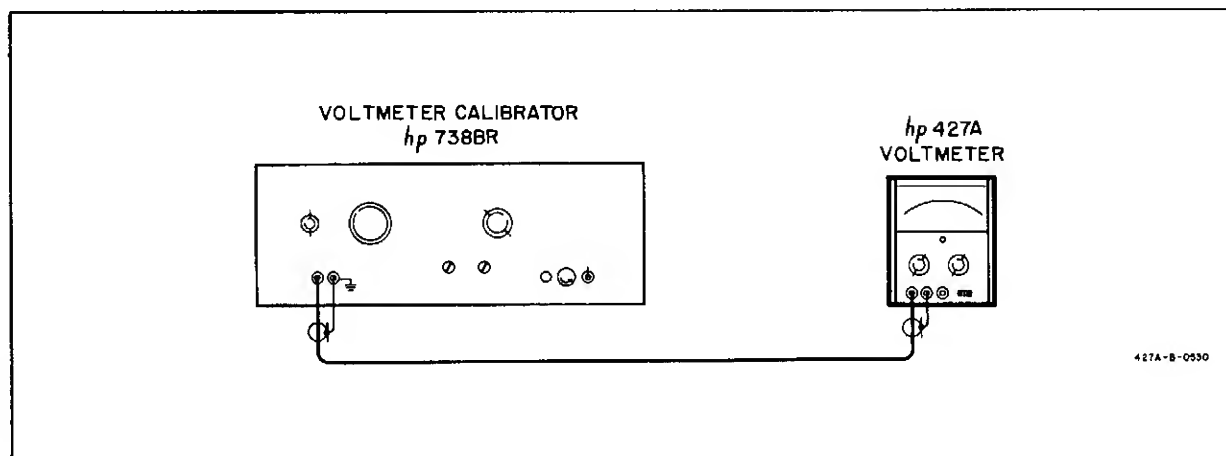

Figure 5-3. DC Accuracy and Linearity Check
5-17. The DC Accuracy Check requires a dc voltage standard that is accurate to within $\pm 0.2\%$ of its indicated output from 0.1 volt to 300 V. The -hp- Model 738BR Voltmeter Calibrator is accurate to within $\pm 0.1\%$ of the indicated output. Figure 5-3 shows the test setup for the DC Accuracy Check.
- c. Connect the voltmeter calibrator and the Model 427A as shown in Figure 5-3.
full scale inputs on the 0.1, 0.3, and 1 volt ranges respectively. The 3 volt through 1000 volt ranges are calibrated by A2R5 and require no special calibration. Use the test setup in Figure 5-3.